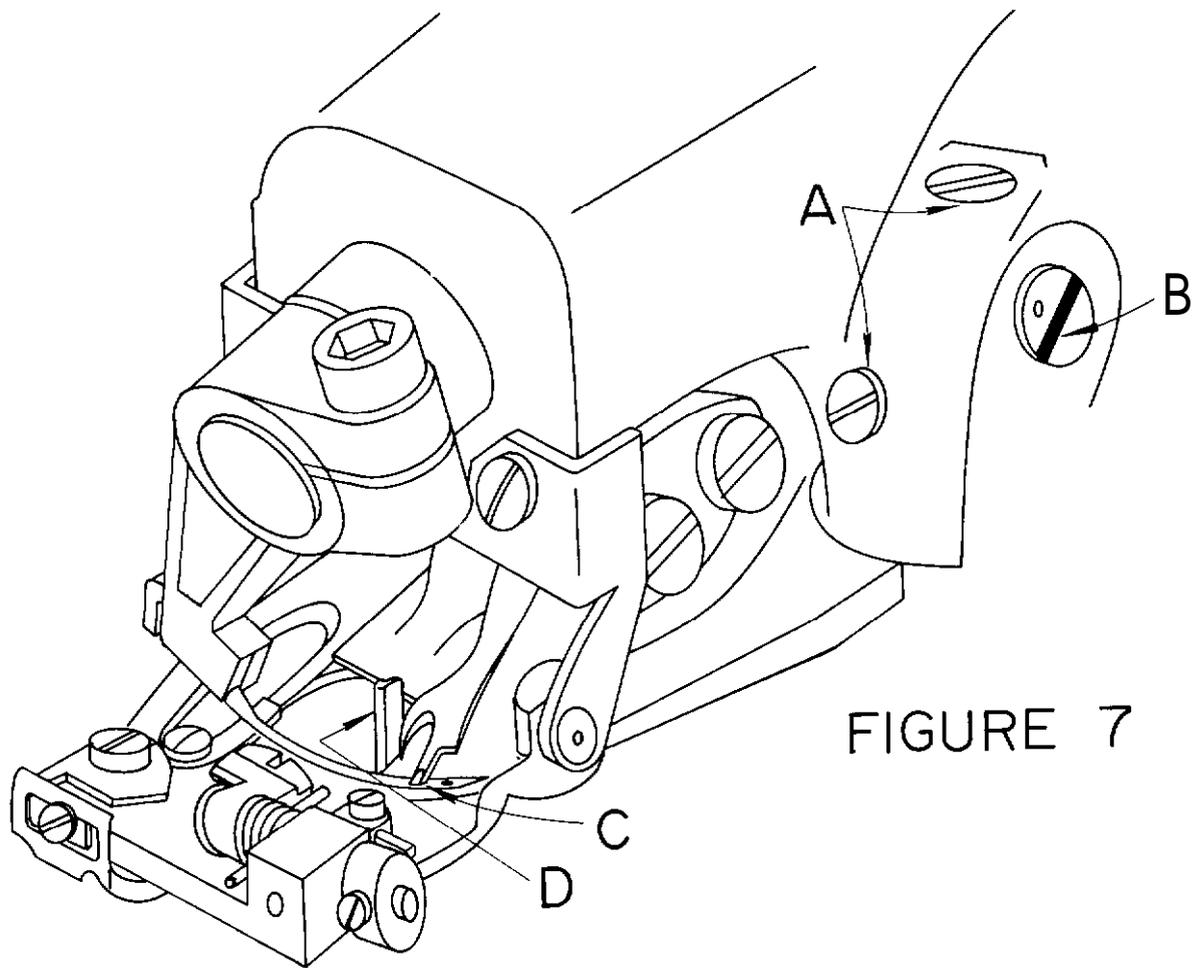

FIGURE 7
2. Any time a looper is moved or changed, recheck the looper timing and reset if necessary. Proper looper timing is absolutely essential for correct stitch formation. As described in detail below, a properly timed looper will pass over the needle in the correct position to pick up the loop, and also clear the chain-off pin, feeder, looper slot, and needle. The first check point for timing the looper is at the position where the looper picks the thread loop off the needle during the needle return stroke. Referring to Figure 7, (Point "C"), the long prong of the looper should pass over and just clear the scarf of the needle, approximately  $\frac{3}{32}$ " (2.4mm) behind the end of the needle eye. At the same time, the short prong of the looper should pass over the needle with about  $\frac{1}{64}$ " (.406mm) clearance, and must be so set that it also clears the chain-off pin (item "D" in Figure 7).
5. If, after completing the above adjustments, it is found that the looper is either too low or too high, it will be necessary to adjust the eccentric stud. First loosen the two set screws (item "A" in Figure 7). Place a wide blade screwdriver in the slot of the eccentric stud (item "B" in Figure 7) and, using a slight turning motion, raise or lower the looper as required. Once the proper height is established, check to see whether the looper must be moved to the left or to the right prior to **retight-**ening the eccentric block set screws. If such a movement is required, it may be obtained by lightly tapping the eccentric block in the correct direction with the handle of a screwdriver.
1. After considerable service, it may become necessary to replace the chain off pin, (Item "D" in Figure 7).